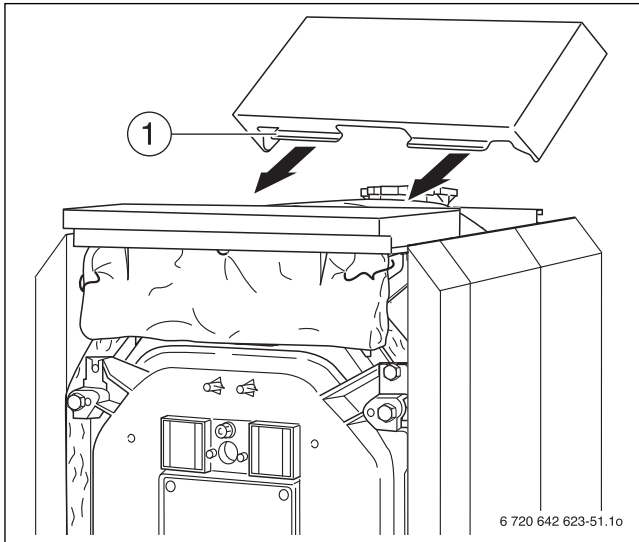

Fig. 53 Fitting the center cover
- ▶ Push the center boiler cover with the folded edges (→ Fig. 53, [1]) under the front boiler cover and insert into the bead of the side panels.